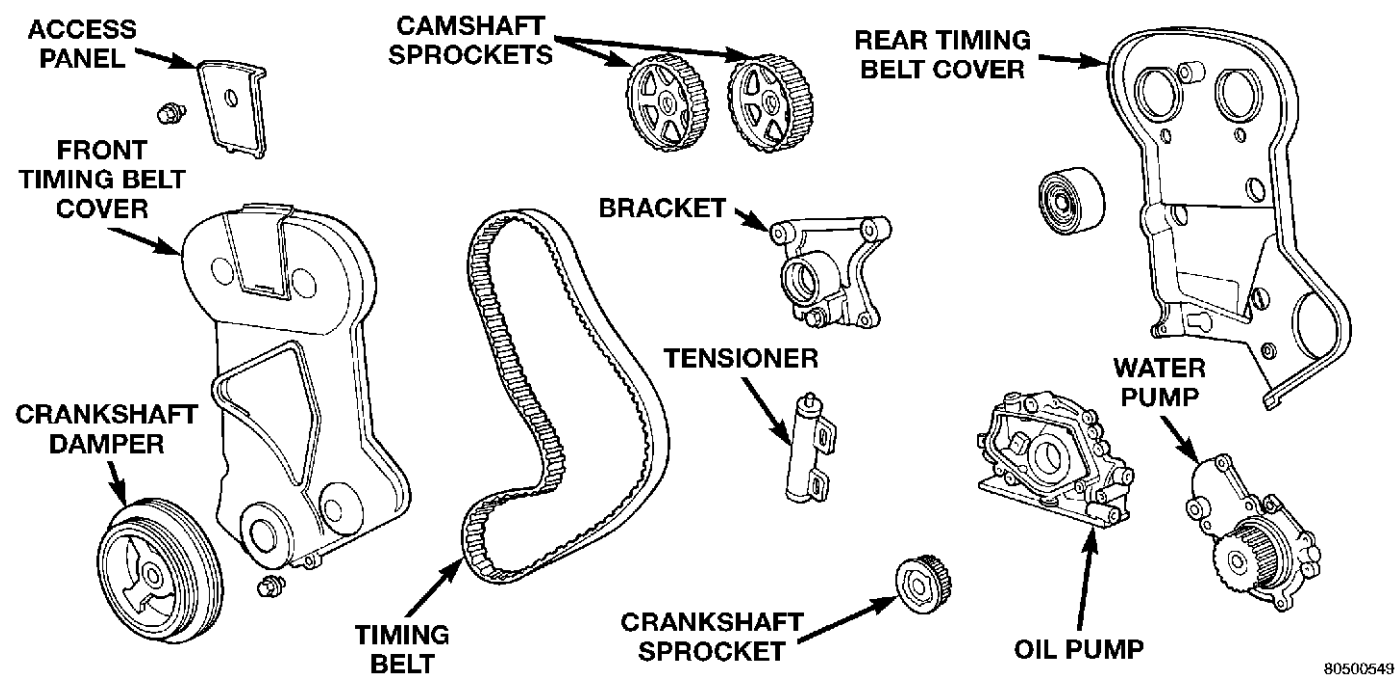

Fig. 41 Typical Timing Belt System—DOHC
- (1) Remove number one spark plug.
- (2) Using a dial indicator, set number one cylinder to TDC on the compression stroke.
- (3) Remove the timing belt access cover from the engine (Fig. 41).